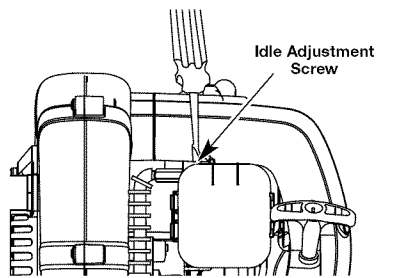

Fig. 18
The idle speed of the engine is adjustable. An idle adjustment screw is between the air filter cover and the engine cover (Fig. 18).
- Move the cruise control to the SLOW position and let the engine idle. If the engine stops, insert a small Phillips screwdriver in between the air filter cover and the engine cover (Fig. 18). Turn the idle speed screw in, clockwise, 1/8 of a turn at a time (as needed) until the engine idles smoothly.